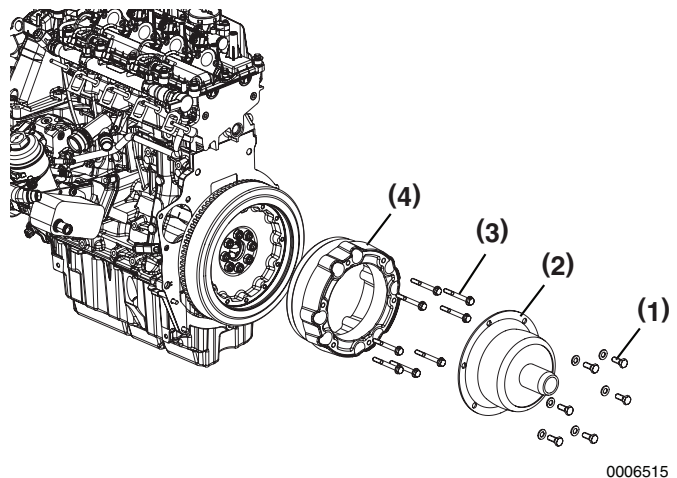

Figure 5-67
3. Remove six bolts and washers (**Figure 5-67, (1)**).
4. Remove coupler (**Figure 5-67, (2)**).
5. Remove eight bolts (**Figure 5-67, (3)**) and remove coupler adapter (**Figure 5-67, (4)**).